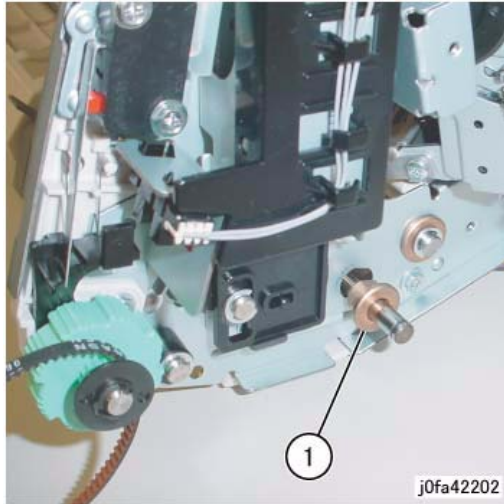

Figure 2 Removing the Front Bearing
5. Remove the Front Bearing (Figure 2):